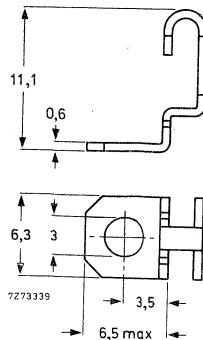

Fig. 5 Metal mounting bracket
- metal bracket for panel mounting, catalogue number 4332 026 00760 (Figs 5 and 6).